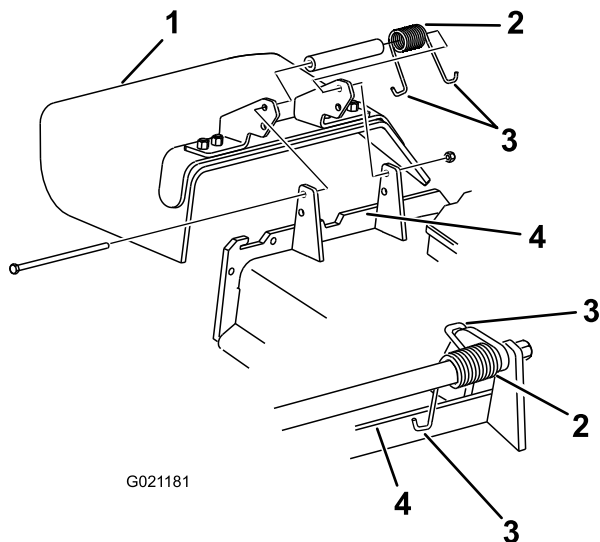

Figure 10
1. Make sure that one end of the spring is installed behind the deck edge before installing the bolt as shown in Figure 10.
2. Place the other end of the spring around grass deflector (Figure 10).